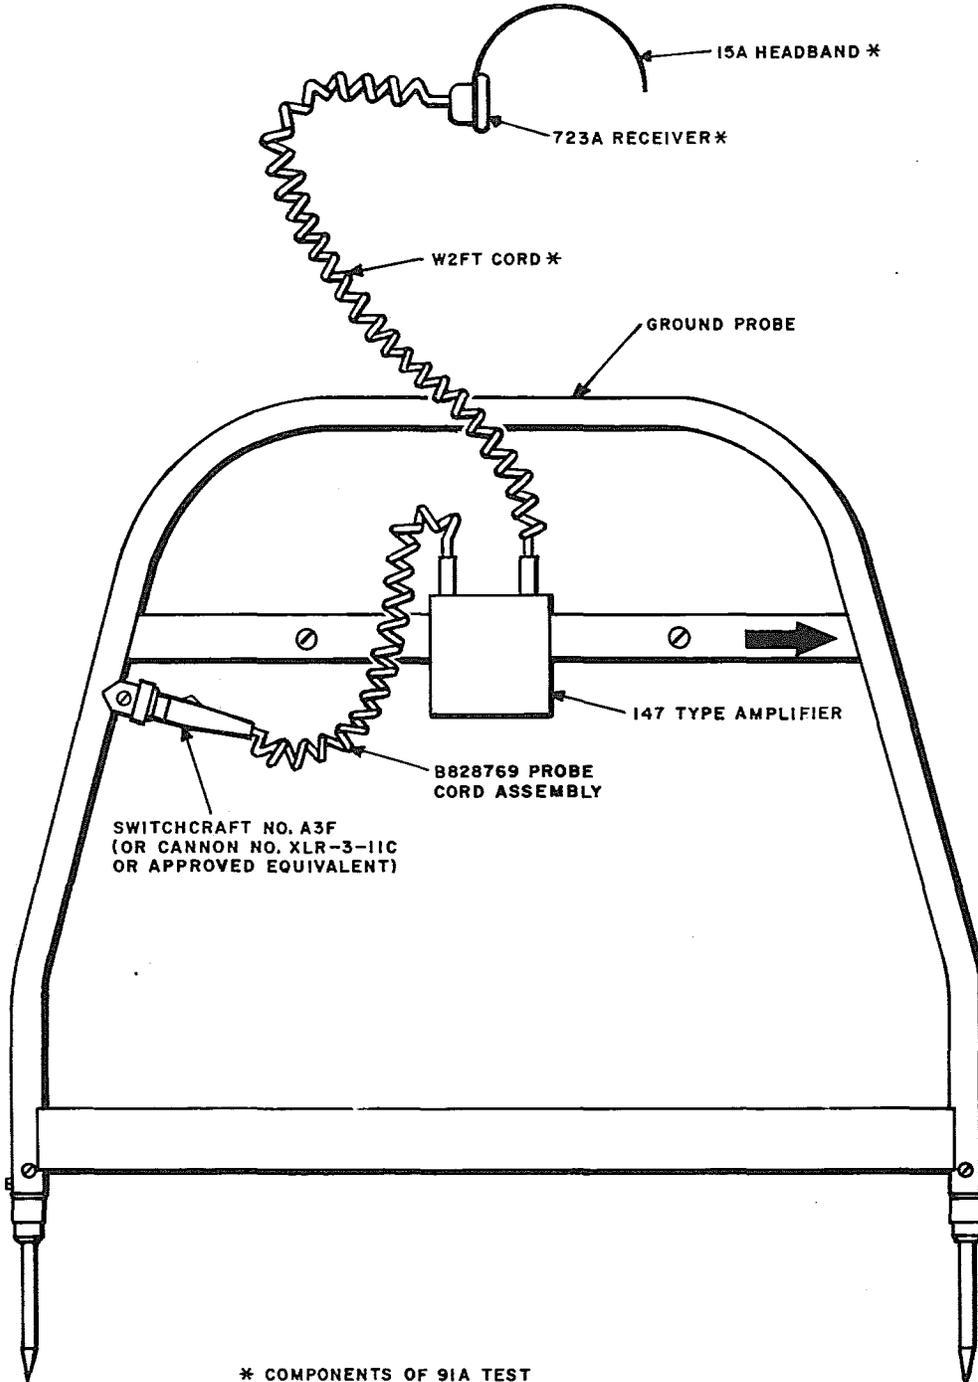

Fig. 2—Components Used With B Ground Probe
1.03 A signal source, supplied by a 76C test set or equivalent, is applied to the cable and detection of this signal is accomplished with the components of the 91A test set and a 147C amplifier (Fig. 2). The earth ground for the signal source shall be established with a separate ground rod (eg, a long screwdriver).